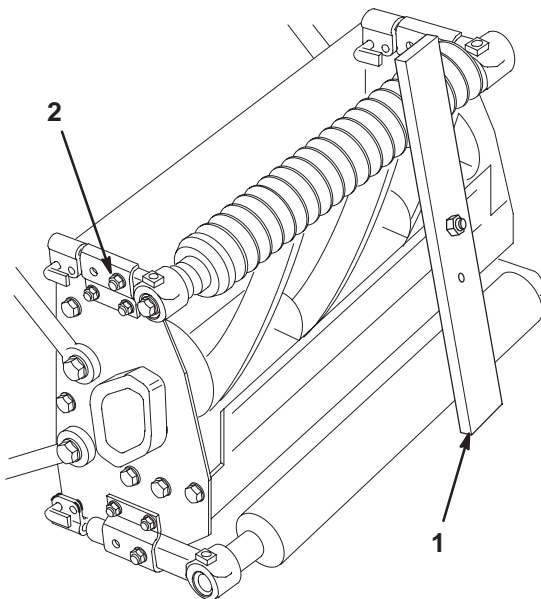

Figure 9
- Slightly loosen nut securing each front roller bracket to angle bracket (Fig. 9).
- Place the bar across the front and rear rollers and adjust the front roller support screws until the underside of screw head engages the bedknife cutting edge (Fig. 9). Do this on both ends of reel. Make sure the rollers are free of debris and/or distortions on the roller surfaces.